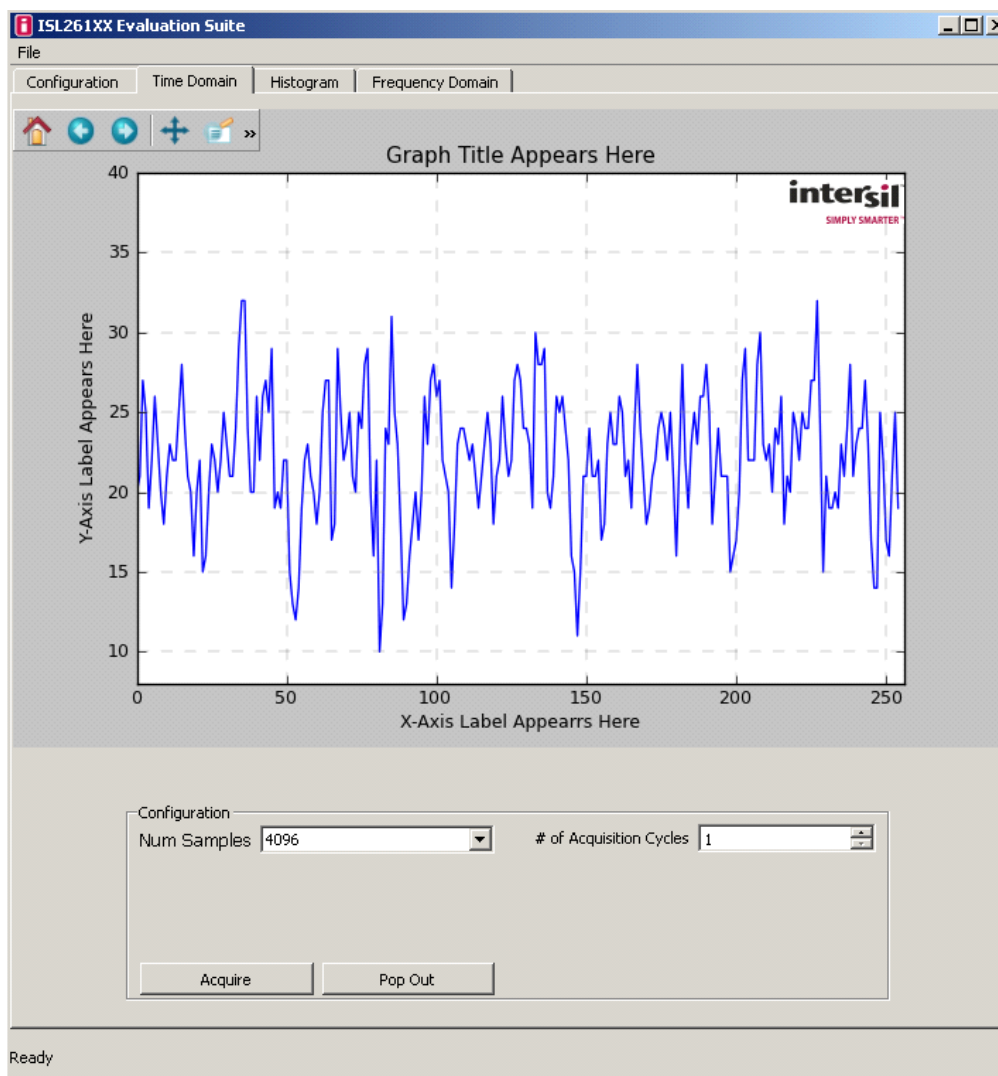

FIGURE 23.
**Check Box (customize):** Allows customization of axis labels/plot title as shown in the Figure 23.